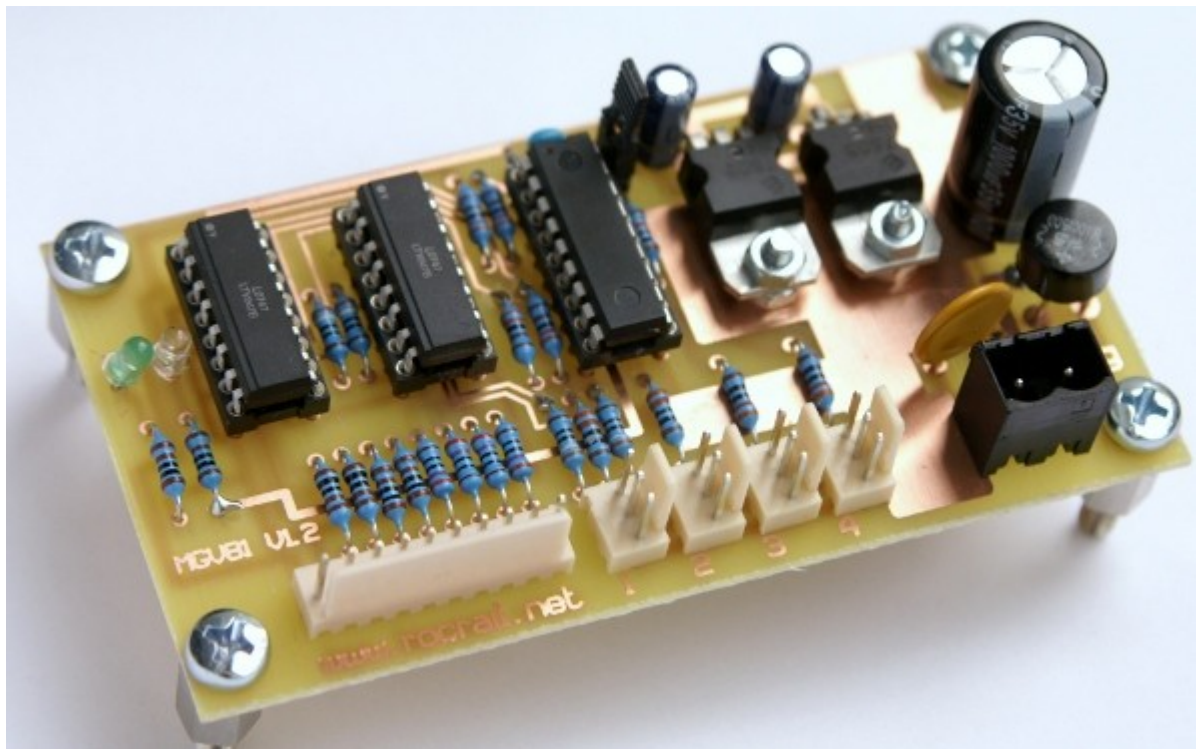

Figure 12: The MGVS1 servo interface with feed-back
1.11.6 Connections (see fig.12)